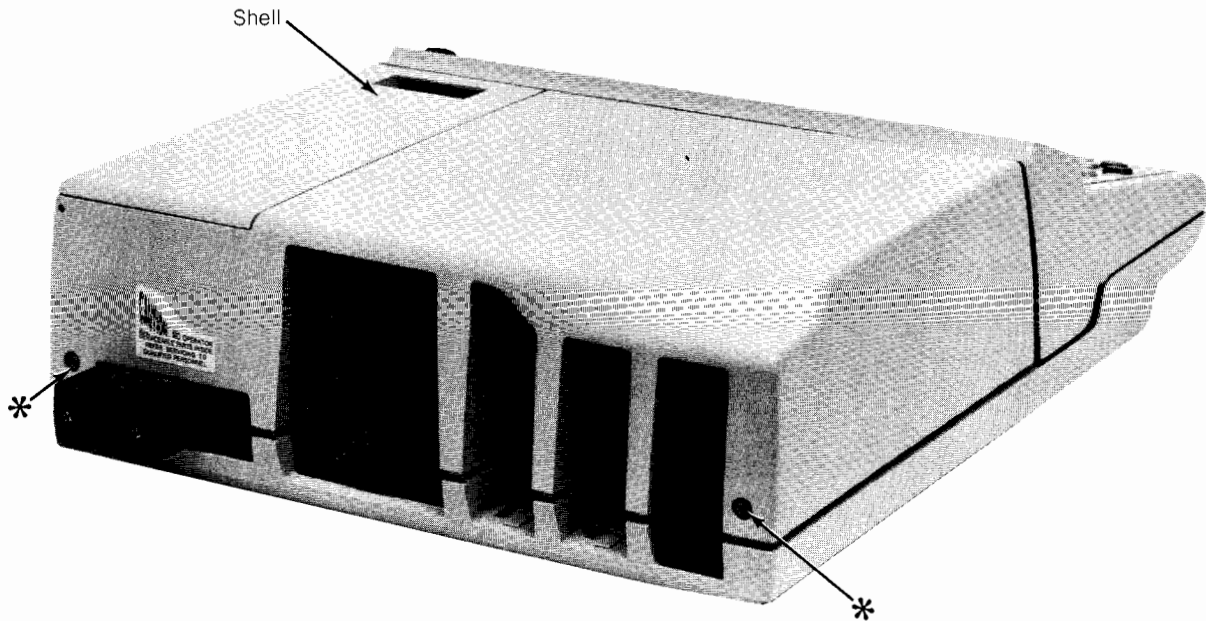

Figure 2-1 Computer Rear Panel
1. Remove the two screws attaching the shell to the base. See Figure 2-1.